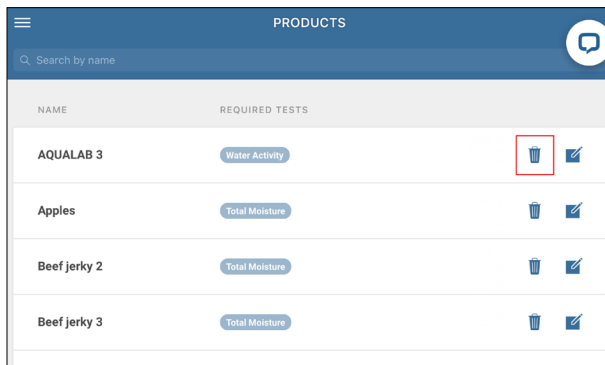

Figure 44 Products list
The Product screen will appear with the newly added/updated Product listed (Figure 44).
3. Press on the garbage can icon to remove the product (Figure 44).